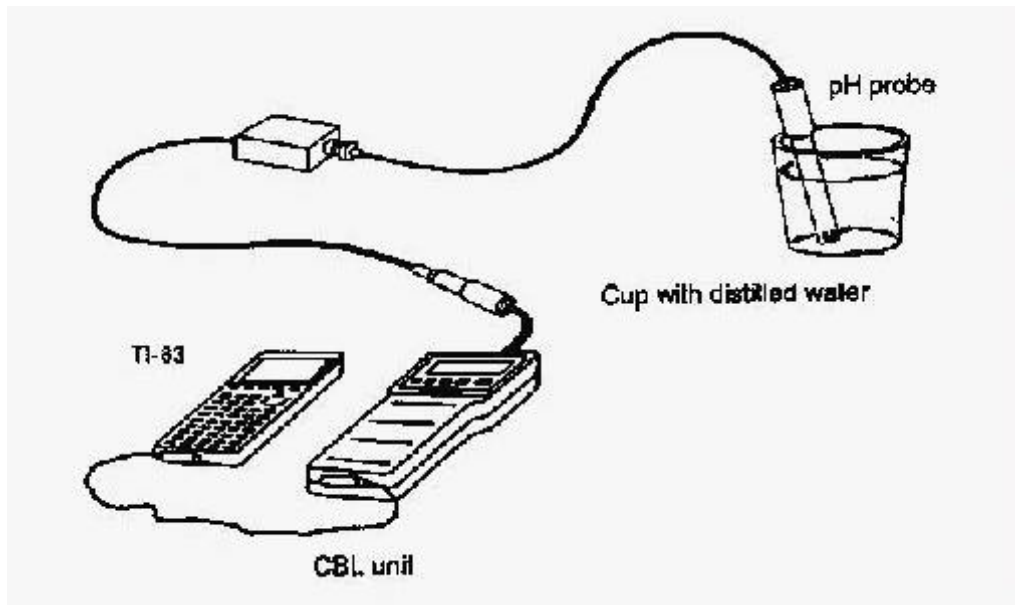

Figure 1
- 5) Connect the TI-83 to the CBL unit using the Graph Link (see Figure 1).
- 6) Connect the pH probe to the CBL unit using port 1 (see Figure 1).